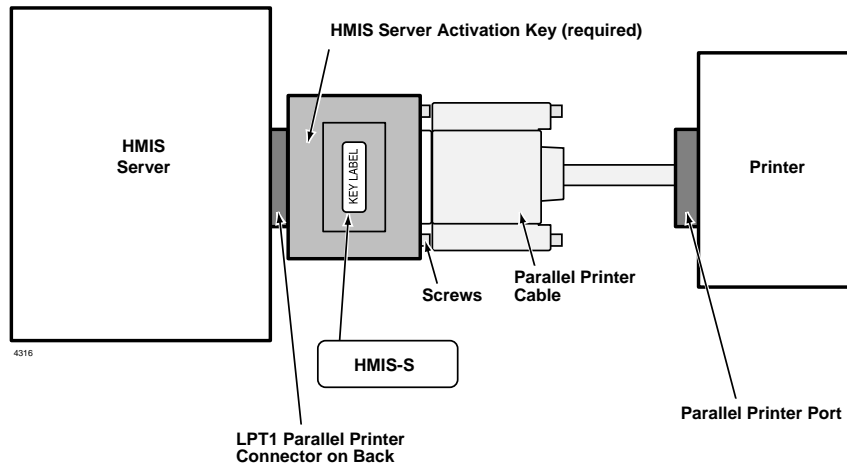

Figure 15-9 HMIS Server PC Activation Key
- Install the correct HMIS activation key on the LPT1 parallel printer port of the HMIS server (see Figure 15-9).